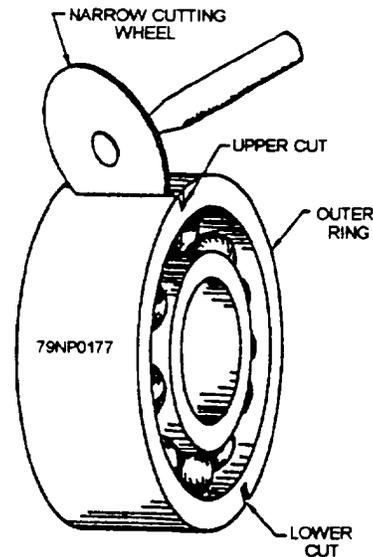

Figure 7-6.—Removing seized outer ring of bearing.
3. Using a high-speed grinder with a cutting wheel, cut the outer ring of the seized bearing in two places (fig. 7-6).